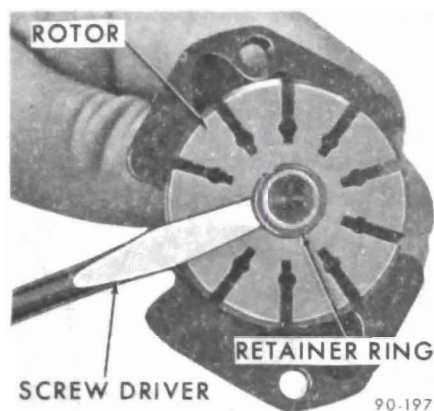

Figure 90-82 Removing Rotor Retaining Ring
13. If it is desired to disassemble the shaft and rotor assembly use a 11/32 inch wrench as shown in Figure 90-82.